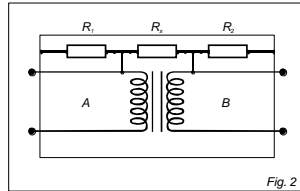

Fig. 2
3. Connect the *black cable* to the **-R** 07 insulation tester terminal (see fig. 2).